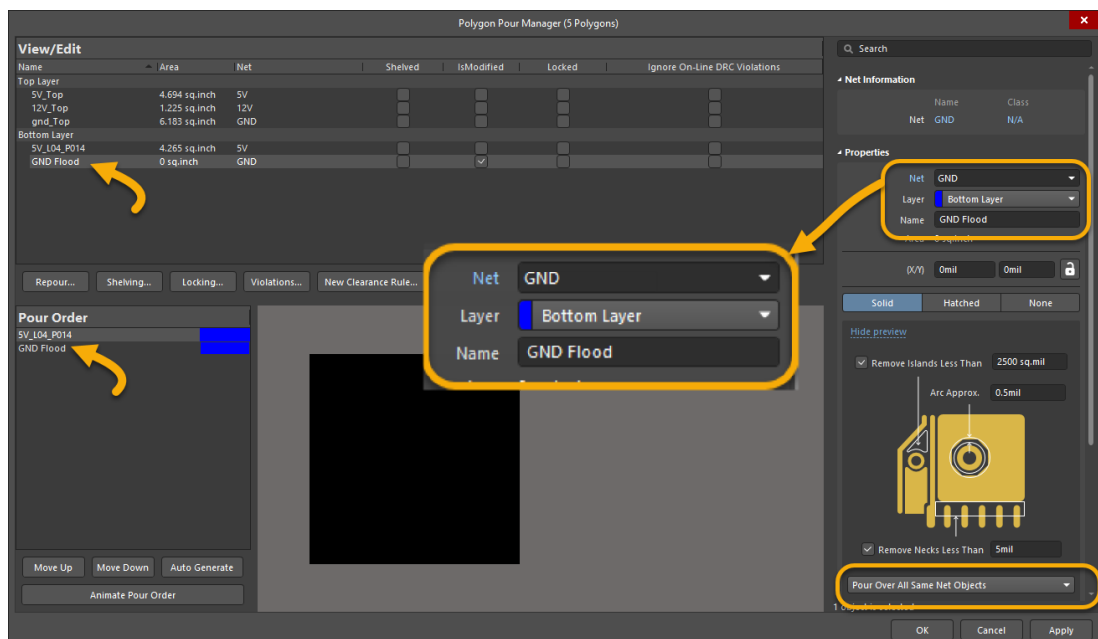

Figure 13. Polygon Pour dialog
40. Match the settings of the newly created Polygon to what is shown in Figure 13. The shape of this polygon will be dependent on the first, Bottom Layer polygon that we created in a previous step. Your polygon may slightly vary from what is shown below.